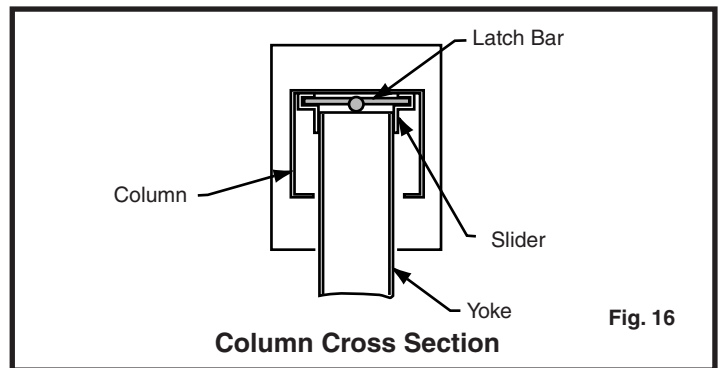

Fig. 16
1. Move rear column towards yoke until the sliders contact the back of column. Center yoke in column, Fig. 16.